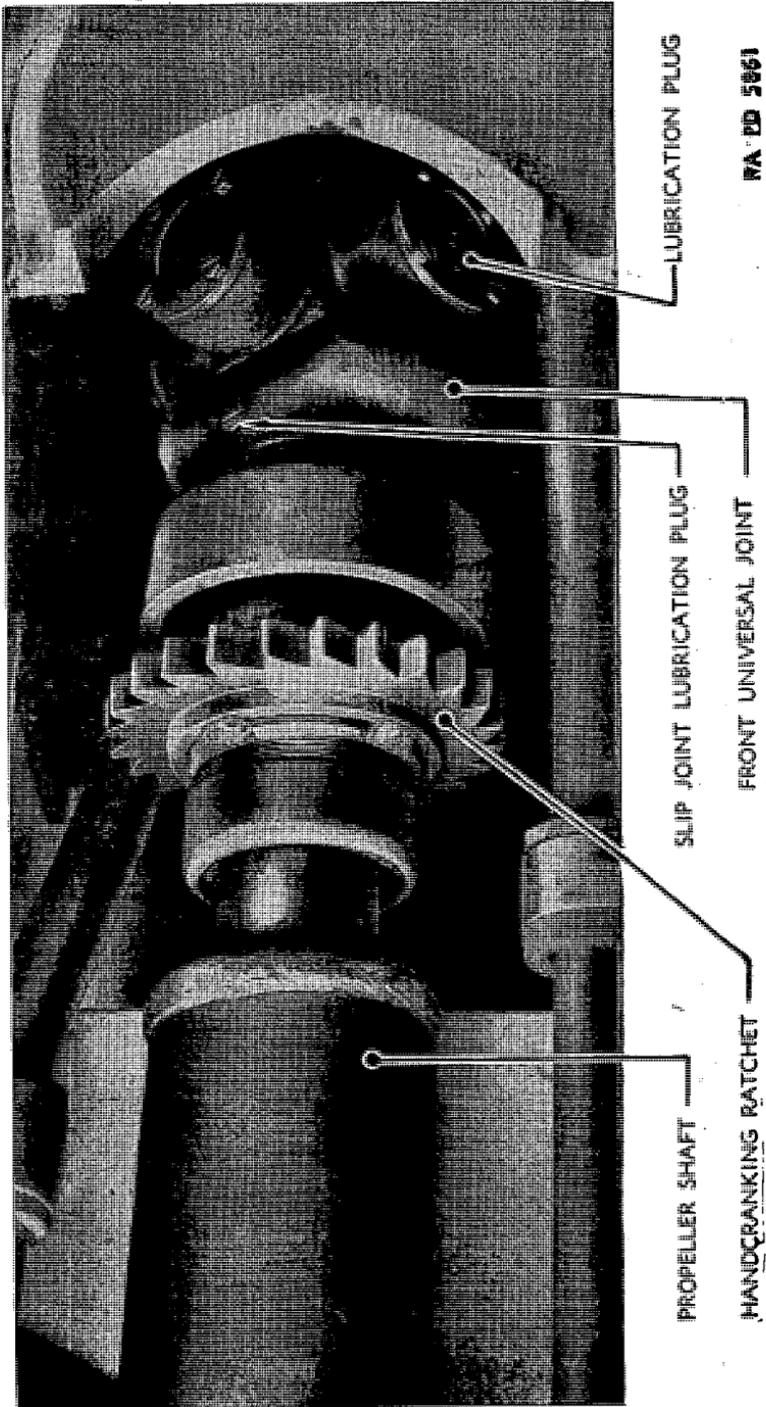

FIGURE 56.—Propeller shaft and front universal joint, Gulberson engine.
95. Description (fig. 56).—The propeller shaft transmits power from the clutch to the transmission. It is inclosed in a housing or “tunnel,” which also mounts a padded gunner’s seat. The propeller shaft is equipped with a universal joint at either end and a slip joint which permits it to be telescoped.
- a. Removal.*—(1) Remove propeller shaft housing cover.